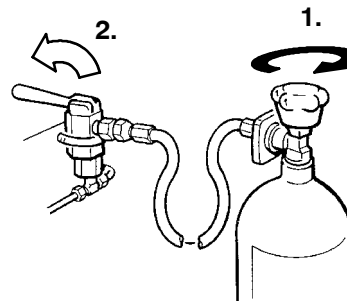
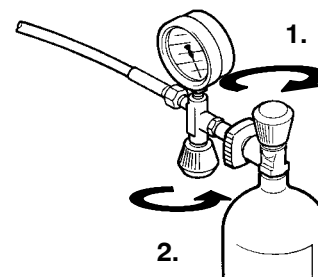

Fig. 24 Removing air bottle
Fig. 25 Removing air bottle
- Upon reaching final bottle pressure **close bottle valve first, then filling valve.** Fig. 24 and Fig. 25